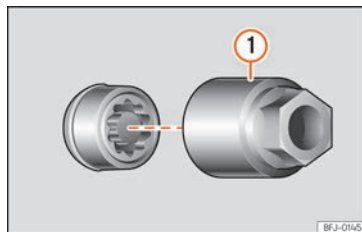

Fig. 37 Anti-theft wheel bolt with cap and adapter.
- Insert the special adapter » **Fig. 37 ①** (vehicle tools » **page 37**) onto the anti-theft wheel bolt and push it on as far as it will go.